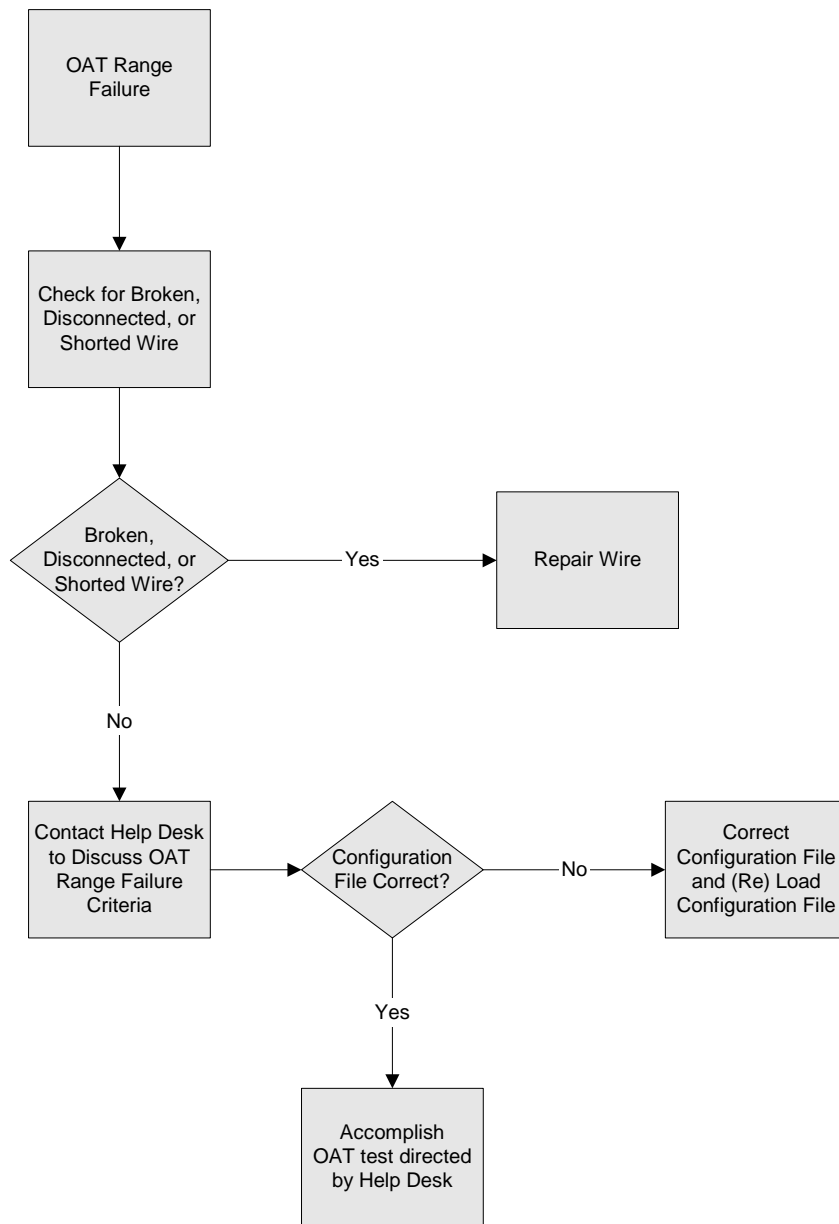

Figure 21: OAT Range Failure Troubleshooting
- b. Range Failure – Refer to Figure 21.